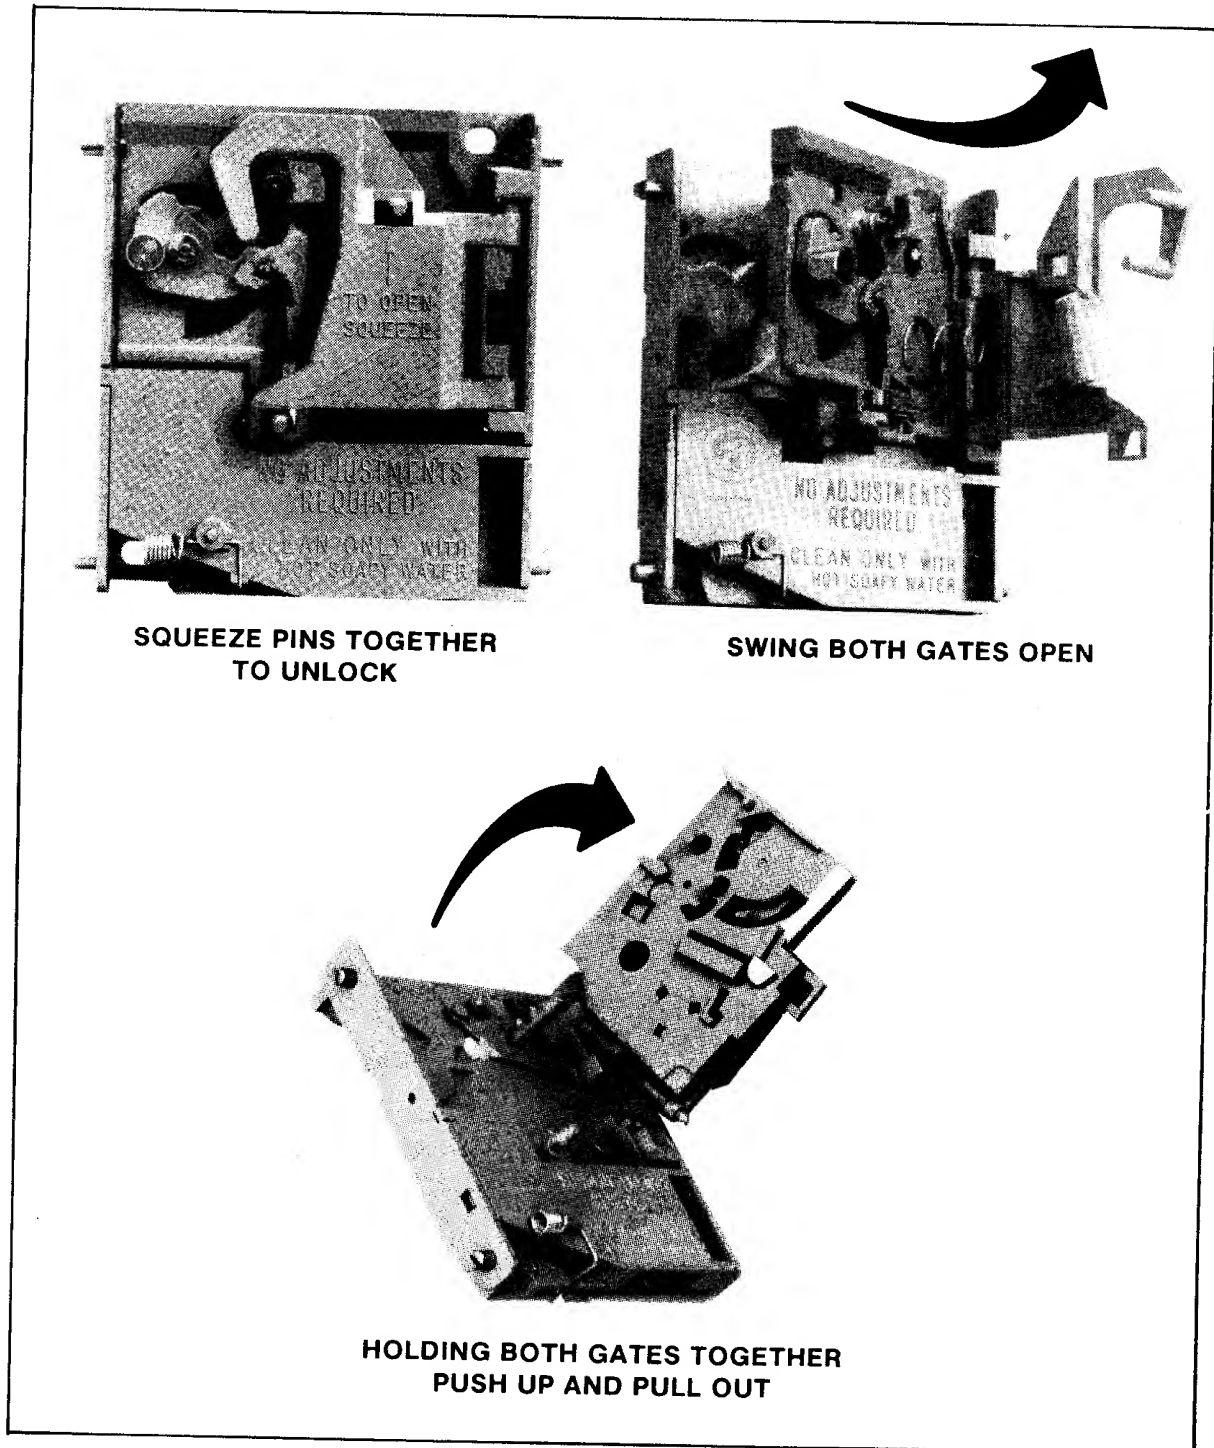

FIGURE 40
- d. Squeeze the two pins indicated in Figure 40 together to open the mechanism and break it down into its three basic parts.